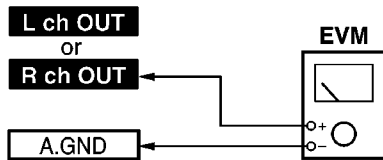

Fig. 13-4.
1. Connect the measuring instrument as shown in Fig. 13-4.